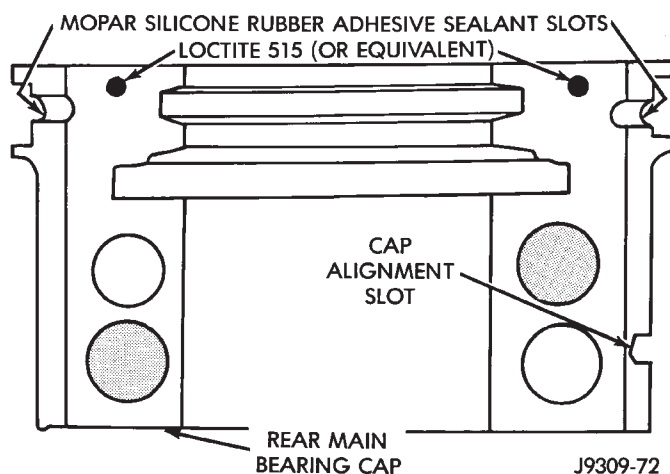

Fig. 40 Sealant Application to Bearing Cap
(1) Lightly oil the new upper seal lips with engine oil.
(2) Install the new upper rear bearing oil seal with the white paint facing towards the rear of the engine.
(3) Position the crankshaft into the cylinder block.
(4) Lightly oil the new lower seal lips with engine oil.
(5) Install the new lower rear bearing oil seal into the bearing cap with the white paint facing towards the rear of the engine.
(6) Apply 5 mm (0.20 in.) drop of Loctite 518, or equivalent, on each side of the rear main bearing cap (Fig. 40). **DO NOT** over-apply sealant or allow the sealant to contact the rubber seal. Assemble bearing cap to cylinder block immediately after sealant application.